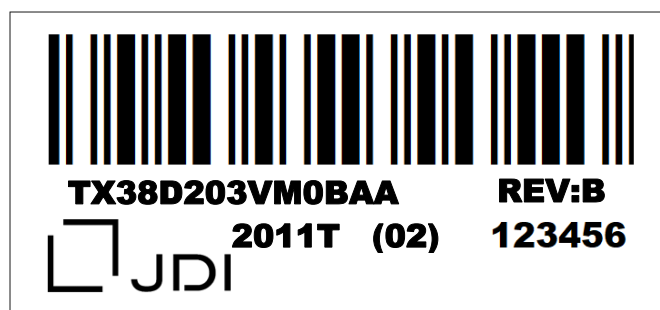

Fig 13.2
- 4) The location of the lot mark is on the back of the display shown in Fig. 13.2.